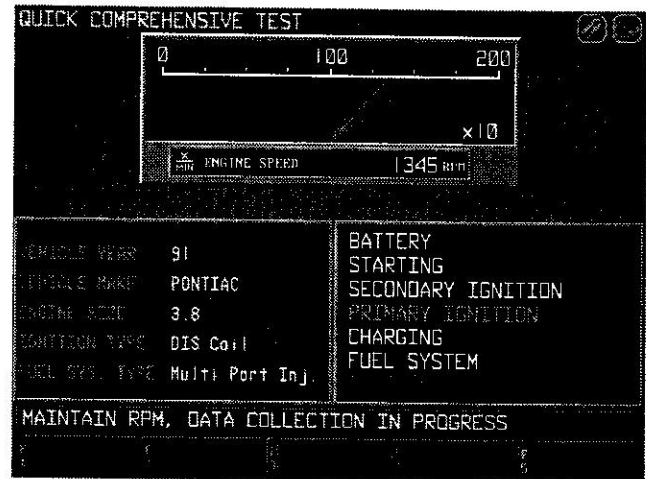

Figure 2-4
2. After the Battery Test is complete, the *Quick Comprehensive* test screen appears (see Figure 2-4). Follow the screen prompts and zero the Light Gray High Amp probe. Press [F2] to continue the test.